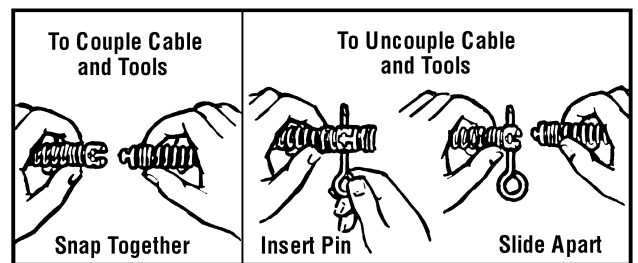

Figure 8 – Coupling and Uncoupling Rods and Tools
15. Couple rod to machine rod driver assembly using RIDGID/Kollmann sectional rods with K-10 Speed Coupler (*Figure 8*).